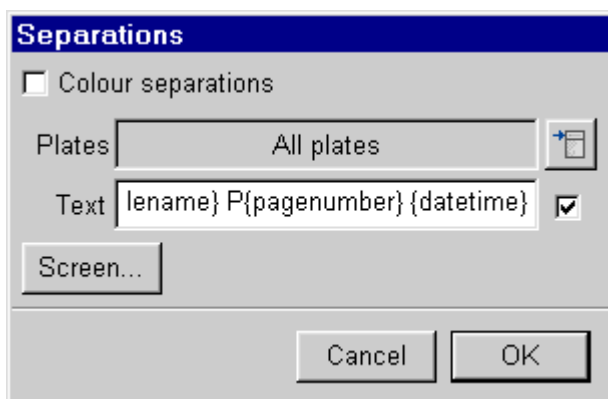

Fig. 13.10 - The **Separations** dialogue box.
**Colour separations** should be selected when you are printing full colour or spot colour separations (fig. 13.10).